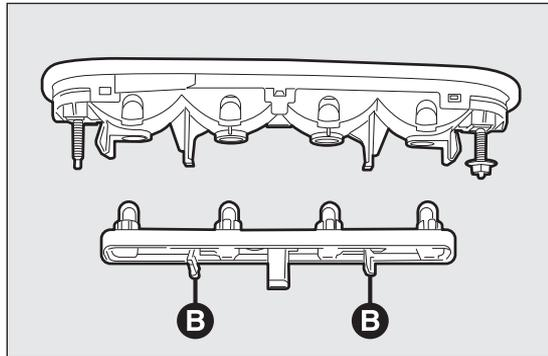

fig. 205
- press in the tabs B fig. 205 and remove the bulb holder;